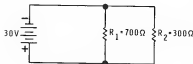

Figure 1-94
23. What is the total resistance of the circuit shown in Figure 1-94?
24. What is the current through R_2 in the circuit of Figure 1-94?